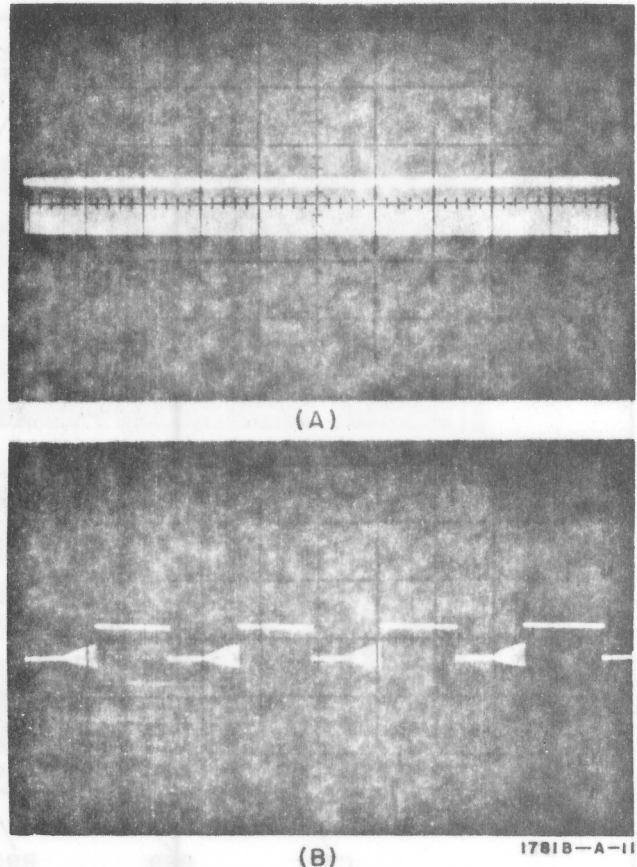

Figure 5-5. Location of Parts Mounted on Switch Assemblies A3 and A4
j. Ground junction of R6 and R9 (see figure 5-5 for location).
5-27. Components on the etched circuit assemblies (A1 and A2) may be replaced by observing servicing techniques outlined in this paragraph. Components on assembly A1 are identified in figure 5-8. Components on switch assemblies are identified in figures 5-5, 5-6, and 5-7. Electrical components mounted on the plug-in front panel can be identified by noting the schematic reference designation and its corresponding front panel label. Replaceable parts information for all components is included in section VI. Proceed as follows: